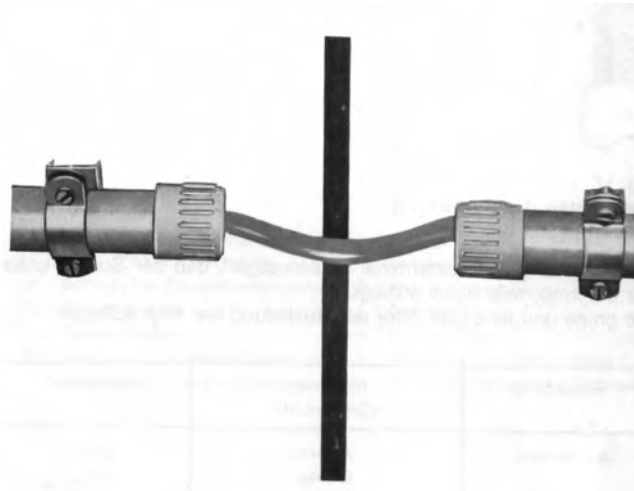

Figure C-2 Interrupting the Conduit at an Expansion Joint
- When 90° bends are necessary and at the junctions between buildings (for example expansion joints), a break in the conduit is acceptable only when there is no likelihood of damage to the cable, for example due to falling objects (see Figure C-2).